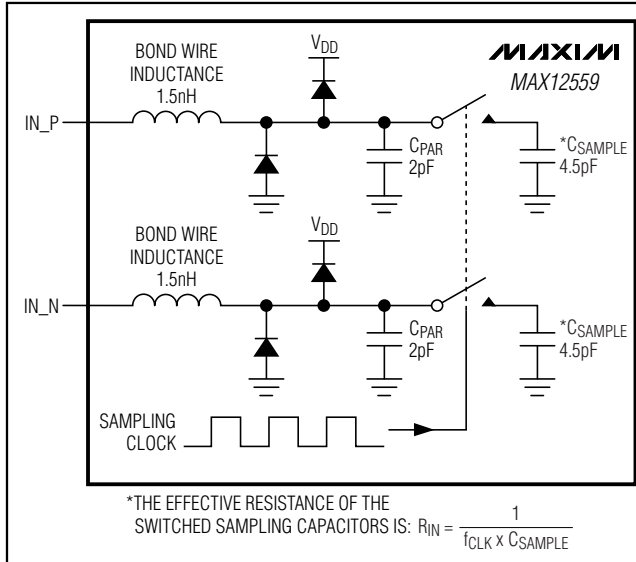
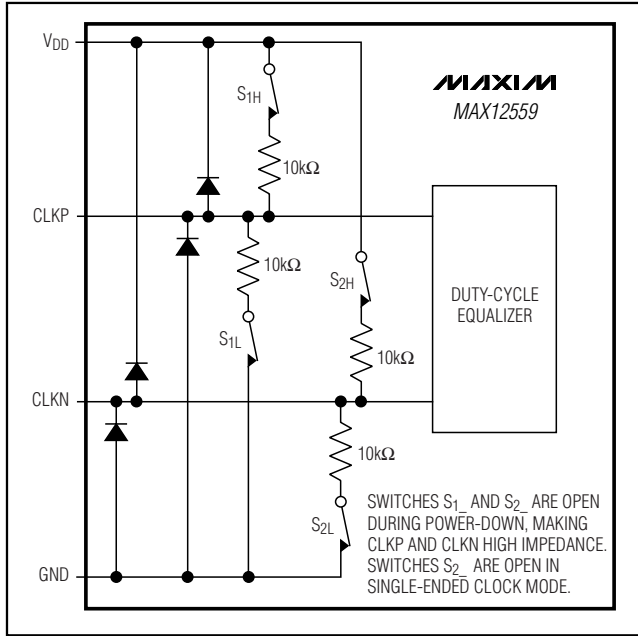
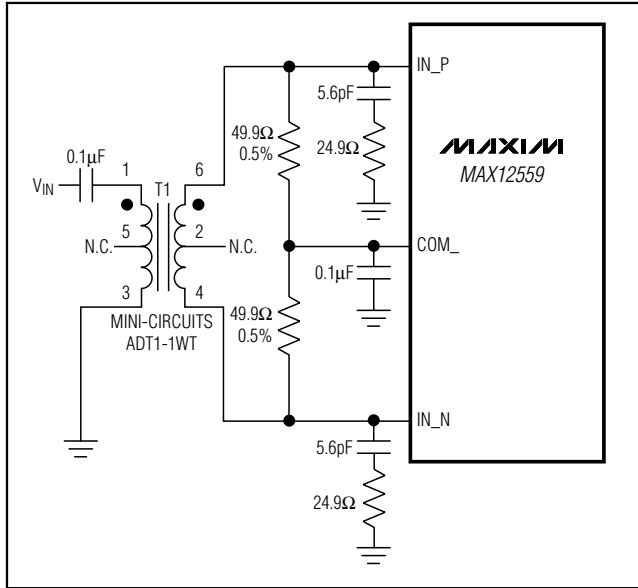
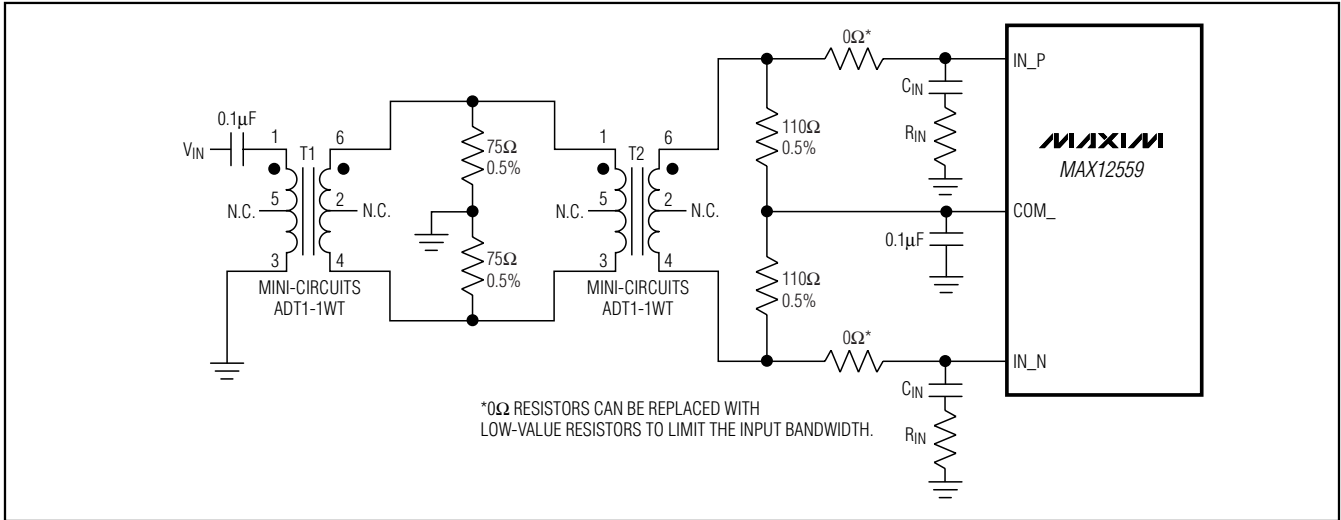

Figure 3. Internal T/H Circuit
Figure 4. Simplified Clock Input Circuit
Figure 9. Transformer-Coupled Input Drive for Input Frequencies Up to Nyquist
Figure 10. Transformer-Coupled Input Drive for Input Frequencies Beyond Nyquist
Figure 3 displays a simplified functional diagram of the input T/H circuit. This input T/H circuit allows for high analog input frequencies (high IF) of 175MHz and beyond and supports a $V_{DD} / 2$ common-mode input voltage.
The MAX12559 sampling clock controls the switched-capacitor input T/H architecture (Figure 3) allowing the analog input signals to be stored as charge on the sampling capacitors. These switches are closed (track mode) when the sampling clock is high and open (hold mode) when the sampling clock is low (Figure 4). The analog input signal source must be able to provide the dynamic currents necessary to charge and discharge the sampling capacitors. To avoid signal degradation, these capacitors must be charged to one-half LSB accuracy within one-half of a clock cycle. The analog input of the MAX12559 supports differential or single-ended input drive. For optimum performance with differential inputs, balance the input impedance of IN_P and IN_N and set the common-mode voltage to mid-supply ($V_{DD} / 2$). The MAX12559 provides the optimum common-mode voltage of $V_{DD} / 2$ through the COM output when operating in internal reference mode and buffered external reference mode. This COM output voltage can be used to bias the input network as shown in Figures 9, 10, and 11.
The MAX12559 accepts both differential and single-ended clock inputs with a wide 25% to 75% input clock duty cycle. For single-ended clock input operation, connect DIFFCLK/SECLK and CLKN to GND. Apply an external single-ended clock signal to CLKP. To reduce clock jitter, the external single-ended clock must have sharp falling edges. For differential clock input operation, connect DIFFCLK/SECLK to OVDD. Apply an external differential clock signal to CLKP and CLKN. Consider the clock input as an analog input and route it away from any other analog inputs and digital signal lines. CLKP and CLKN enter high impedance when the MAX12559 is powered down (Figure 4).
- 1) INAP/B, INAN/B analog inputs are disconnected from the internal input amplifier (Figure 3).
- 6) CLKP, CLKN clock inputs enter a high-impedance state (Figure 4).
An RF transformer (Figure 9) provides an excellent solution to convert a single-ended input source signal to a fully differential signal, required by the MAX12559 for optimum performance. Connecting the center tap of the transformer to COM provides a V_{DD} / 2 DC level shift to the input. Although a 1:1 transformer is shown, a step-up transformer can be selected to reduce the drive requirements. A reduced signal swing from the input driver, such as an op amp, can also improve the overall distortion. The configuration of Figure 9 is good for frequencies up to Nyquist ($f_{CLK} / 2$).
The circuit of Figure 10 converts a single-ended input signal to fully differential just as Figure 9. However, Figure 10 utilizes an additional transformer to improve the common-mode rejection allowing high-frequency signals beyond the Nyquist frequency. A set of 75 Ω and 110 Ω termination resistors provide an equivalent 50 Ω termination to the signal source. The second set of termination resistors connects to COM_ providing the correct input common-mode voltage. Two 0 Ω resistors in series with the analog inputs allow high-IF input frequencies. These 0 Ω resistors can be replaced with low-value resistors to limit the input bandwidth.
The input network in Figure 10 can be modified to enhance the frequency-range-specific AC performance of the MAX12559 by simply replacing the input capacitance with a series network of resistor (R_{IN}) and capacitor (C_{IN}). Table 4 displays a selection of resistors and capacitors that are recommended to help improve the already excellent performance of this ADC for specific applications requiring only a certain range of input frequencies.